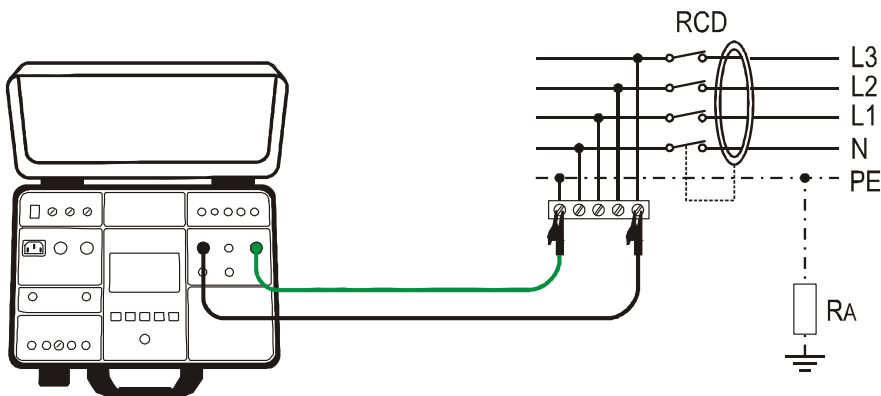

Figure 27: Connection of test leads to tested wiring for LOOPL/PE measurement
- 5) Carry out the measurement by pressing the **START/STOP** button. Test result will be displayed after elapsing measurement time in green colour equipped with green symbol and with beep-beep sound if it is lower than or equal to limit value (see the explanation of limit value above). If the result is higher than limit value, then it will be displayed in red colour equipped with red symbol and with longer beep sound. See the display outlook with test result on the figure 27.